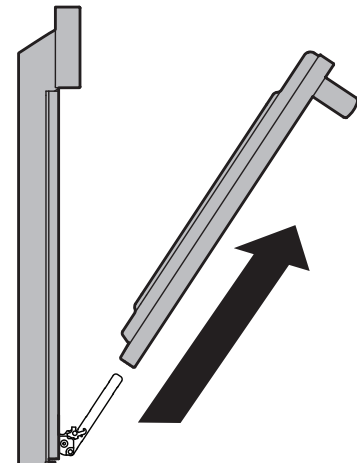

Figure 23: Remove door
4. Pull the bottom of the door toward you while rotating the top of the door toward the appliance to completely disengage the hinge levers (Figure 23).
1. Firmly grasp both sides of oven door along the door sides. Do not use the oven door handle (Figure 23).